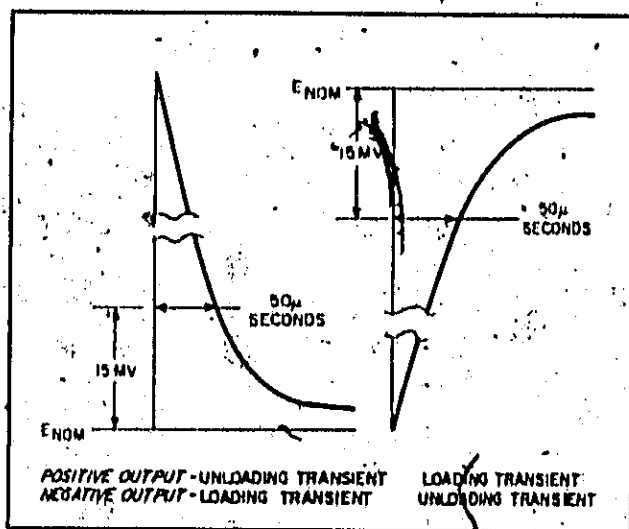

Figure 5-6. Load Transient Recovery Time Waveforms
- a. Connect the test setup shown in Figure 5-6. Both load resistors (R_L) are twice the normal value of a full load resistance.
- i. Starting from the major graticule division representing time zero, count to the right 50 μ sec and vertically 15mV. Recovery should be within these tolerances, as illustrated in Figure 5-6.